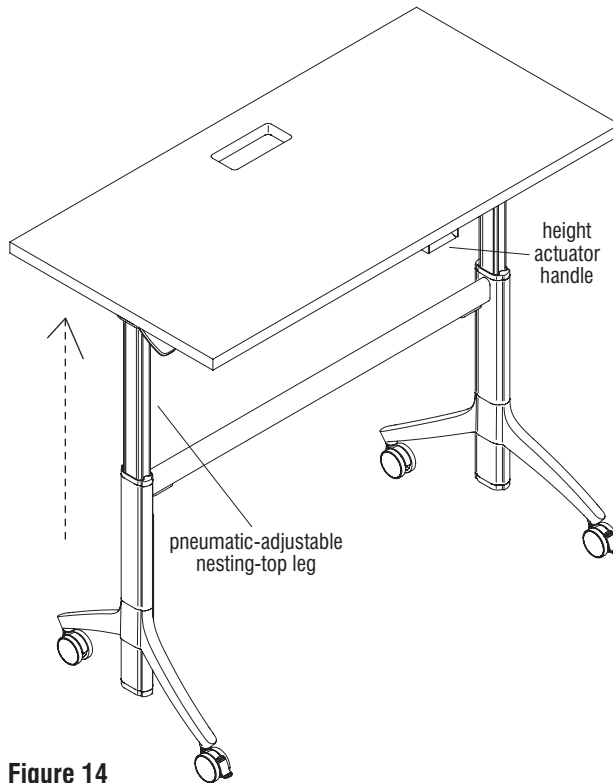

Figure 14
36. Locate the height actuator handle at the front, user side of the table and raise the table about half the height of the table fully extended. At this time, secure the stringer to the stringer attachment bracket by fully tightening two 1/4"-20 x 5/8" Torx head screws on the underside of the stringer, at each end (Figure 14 & Detail A2).
37. Locate the height actuator handle at the front, user side of the table and press the handle up to automatically raise the table height (Figure 14). Then press the handle again, apply pressure down on the tabletop to test that it lowers evenly. If the table raises and lowers evenly, no additional adjustment is required. If the table does not automatically raise when the handle is pressed, one or both cable's hex ends are loose, and require additional adjustment to add more tension. If adjustments are required, proceed to step 38 below. If no adjustments are required, proceed to "Test 2 - Leg Stability Test" instructions on the next page.